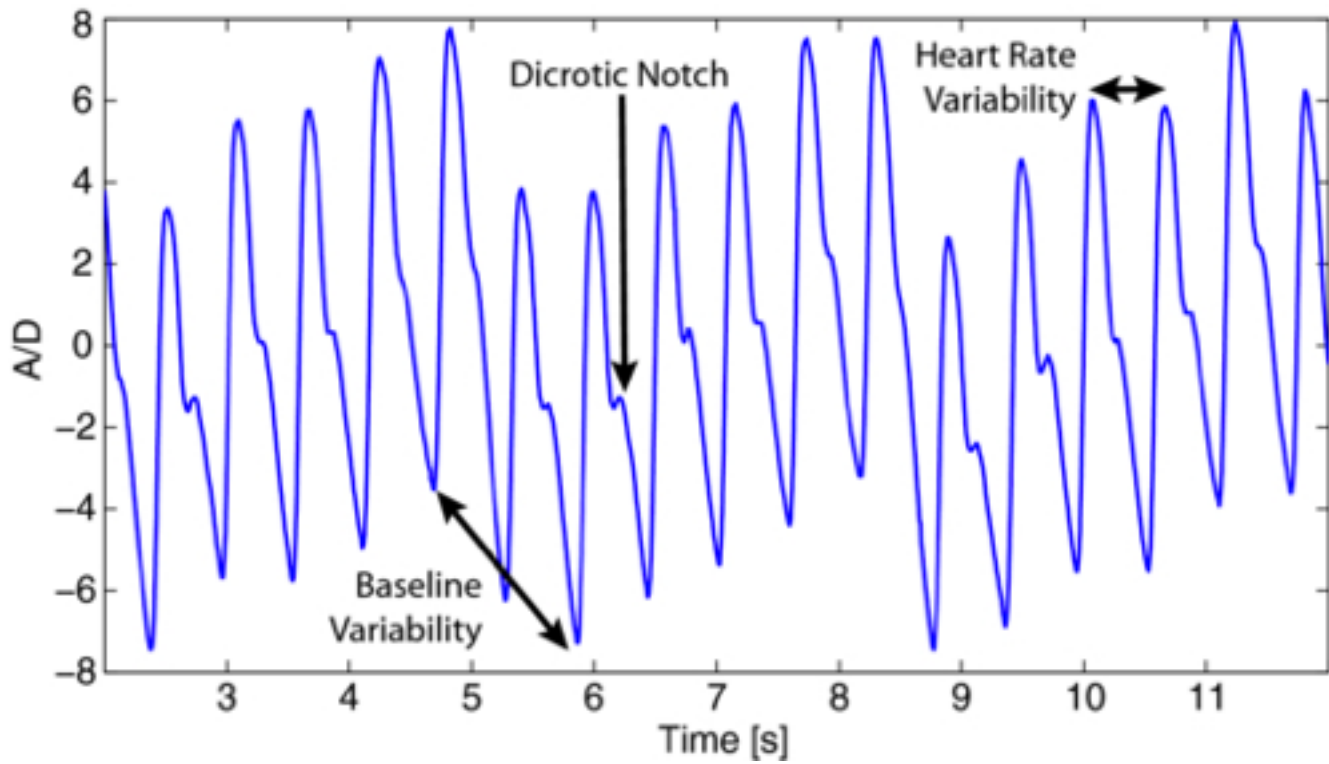

Figure 3.2. PPG signal
2. Test the PPG circuit by inserting your thumb or index finger between the LED transmitter and the LED detector. You should see something that looks like a saw tooth waveform in Figure 3.2. You may even be able to see your respiratory rate from the variability in baseline.